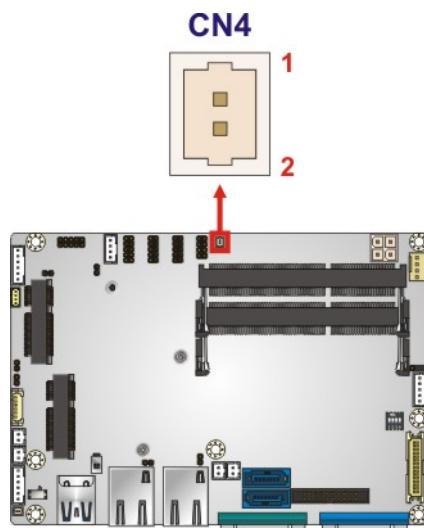

Figure 3-5: Battery Connector Location
**CN Location:** See Figure 3-5